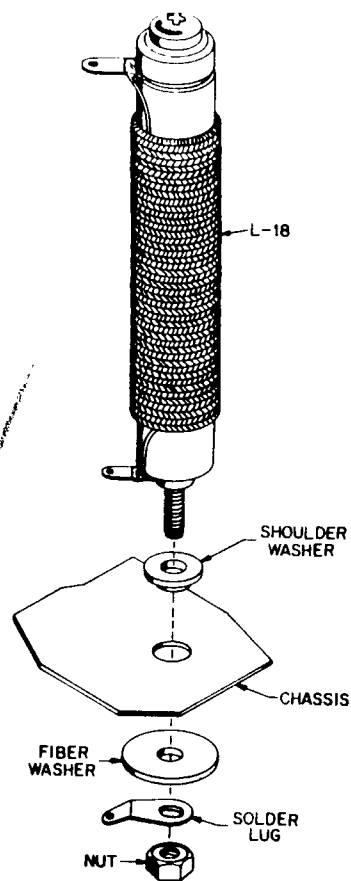

FIGURE 7. MOUNTING L-18
- L-18, shoulder washer, fiber washer, #8 solder lug and an 8-32 nut. Assemble as shown in Figure 7. Do not overtighten the nut as the coil form will be damaged.